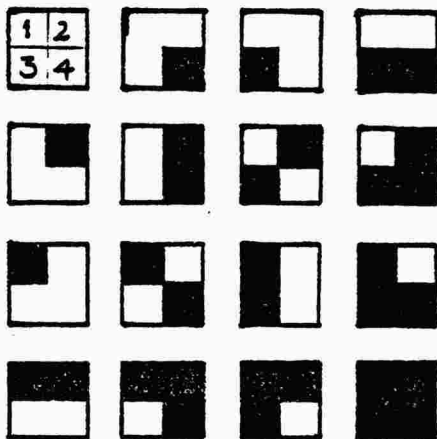

Fig.1
A further development was the Medium Resolution II (I'd hate to break an American tradition), in which plotted points are bigger, better, and faster! The basic outline for this has been given earlier. As each one of those shapes in Figure 1 can be given a unique four digit binary representation (0000 to 1111) and each shape can be pre-defined and assigned to a unique character, I have used a similar system to the one used for the high resolution plotted in that GCHAR is used to find out which character currently occupies the position in which a point is to be plotted; the code of that character is held in a reference string (C\$), and its position corresponds to the four digit group of binary numbers held in B\$. Having obtained the requisite binary pattern, and modified it (even if the point to be plotted has already been plotted - it's quicker that way), the new binary pattern's position is found in B\$ and that position corresponds to the ASCII code of the relevant character held in C\$. (I should emphasize here that the example routines given last issue must be modified to run with medium resolution I and II - that means that some of the variable names will have to be changed, due mostly to the fact that they were developed separately from these routines, and also due in part to the fact that I am still developing much of the material which I present here). Please note that because this system uses pre-defined character shapes, the screen and TP dumps will not work, nor will the axes - with or without protection, unless you develop your own, and please send them in if you do - and the three dimensional plots will look less than agreeable. I know this because I have tried running them on a Sinclair, which has the same degree of plotting resolution, and they don't look anything like as good as in high resolution.
- 210 This is the binary reference string, which holds the binary equivalent of the shapes given in Figure 1. (Note that this is NOT the binary equivalent of the definition strings used.)